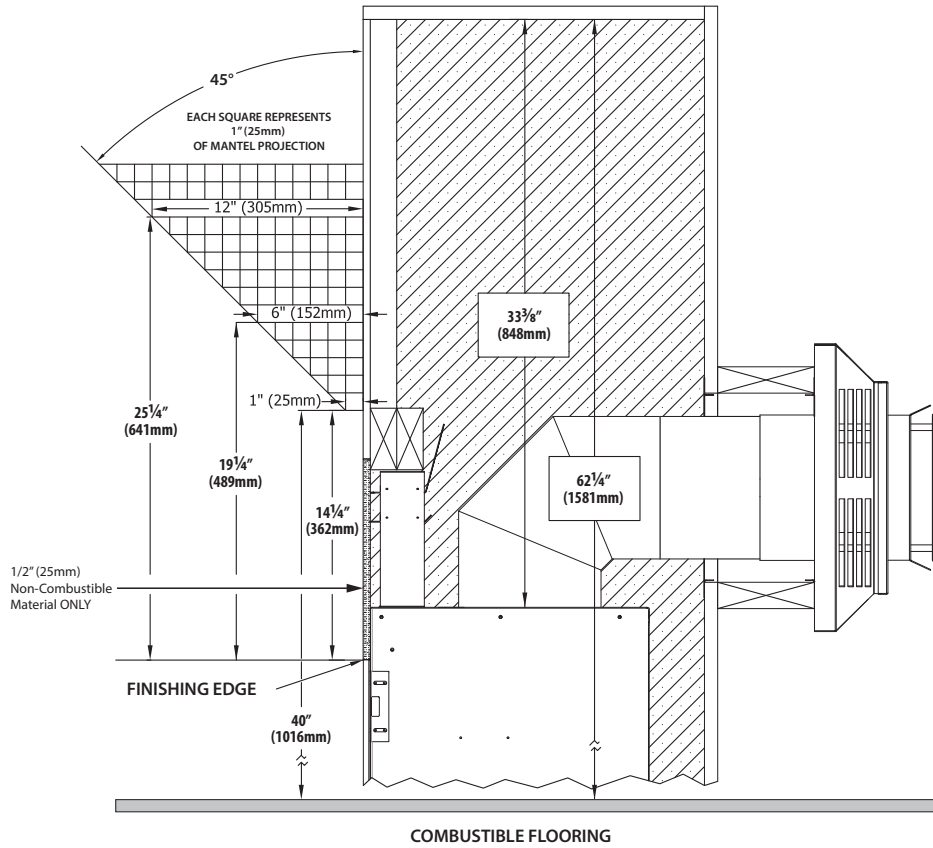

Figure 4.1, Mantel Clearances
- Combustible Mantel Projections - As referenced in Figure 4.1 (page 19), the 1" (25mm) mantel can start at 14-1/4" (362mm) above the finishing edge. Mantel projections can increase 1" (25mm) of depth for every 1" (25mm) of height starting at the 1" (25mm) mantel.